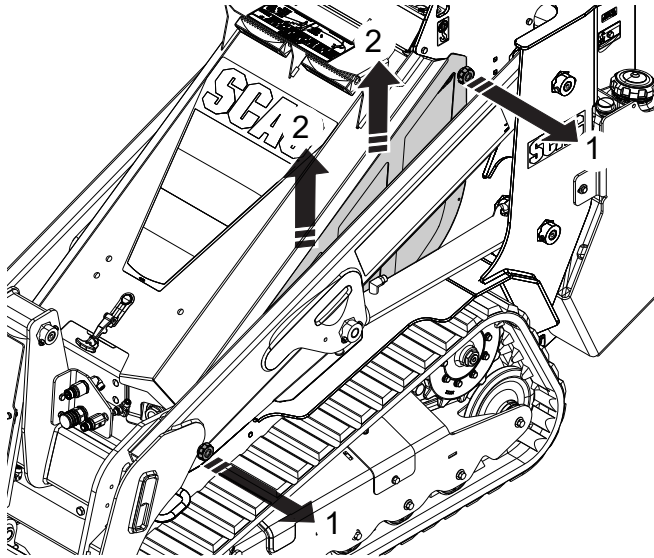

Figure 6-8. Side Screen Removal
1. Loosen the two (2) knobs securing the screen panel. See Figure 6-8.